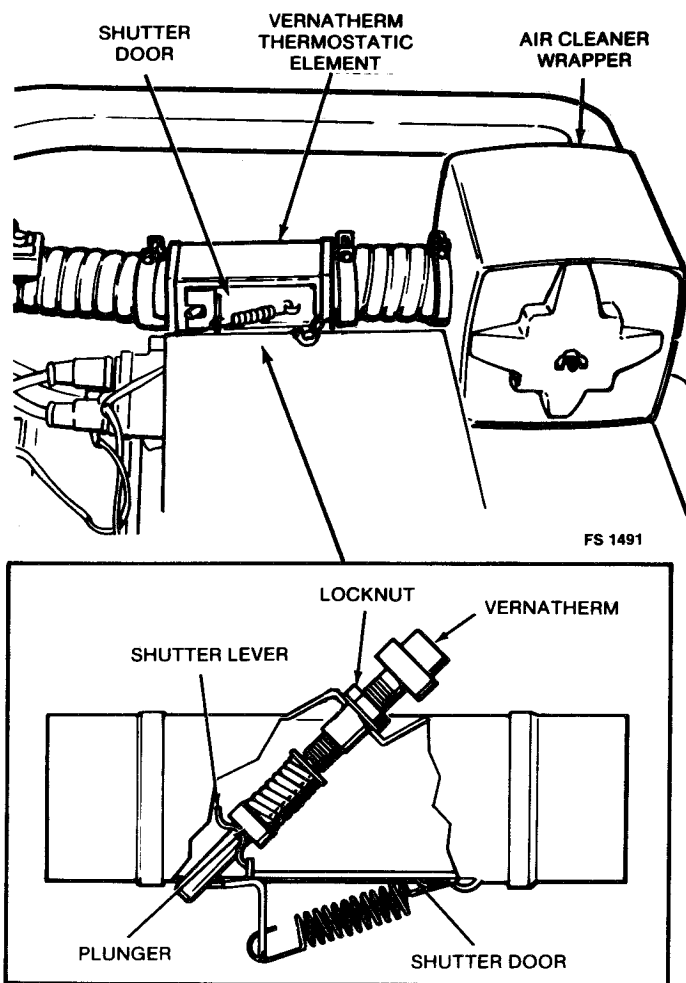

FIGURE 27. CARBURETOR AIR PREHEATER
1. Loosen the lock nut (see Figure 27).